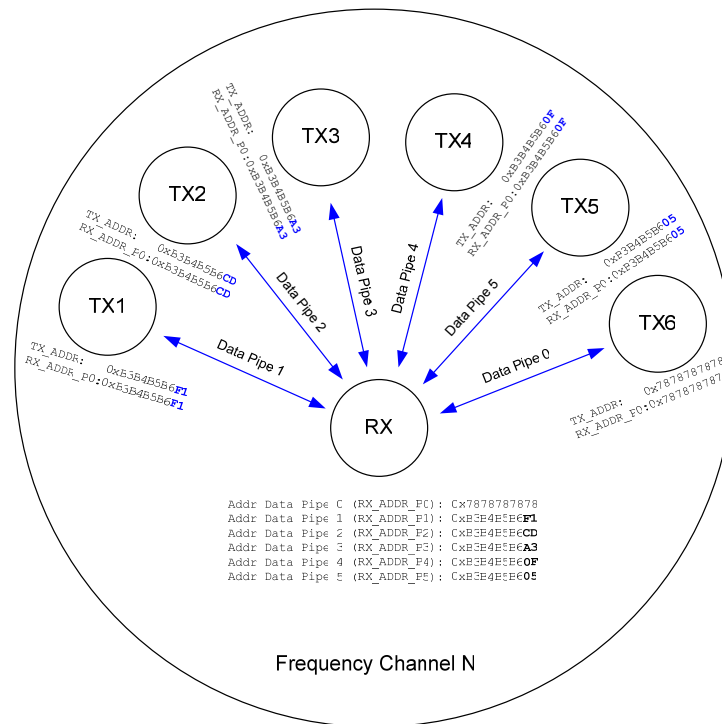

Figure 5: Example on how the acknowledgement addressing is done
nRF24L01 will use the data pipe address when acknowledging a received packet. This means that nRF24L01 will transmit ACK with the same address as it receives payload at. In the PTX device data pipe 0 is used to receive the acknowledge, and therefore the receive address for data pipe 0 has to be equal to the transmit address to be able to receive the acknowledge. See Figure 5 for addressing example.
2. When the application MCU has data to send, the address for receiving node (TX_ADDR) and payload data (TX_PLD) has to be clocked into nRF24L01 via the SPI interface. The width of TX-payload is counted from number of bytes written into the TX FIFO from the MCU. TX_PLD must be written continuously while holding CSN low. TX_ADDR does not have to be rewritten if it is unchanged from last transmit. If the PTX device shall receive acknowledge, data pipe 0 has to be configured to receive the acknowledge. The receive address for data pipe 0 (RX_ADDR_P0) has to be equal to the transmit address (TX_ADDR) in the PTX device. For the example in Figure 5 the following address settings have to be performed for the TX5 device and the RX device: